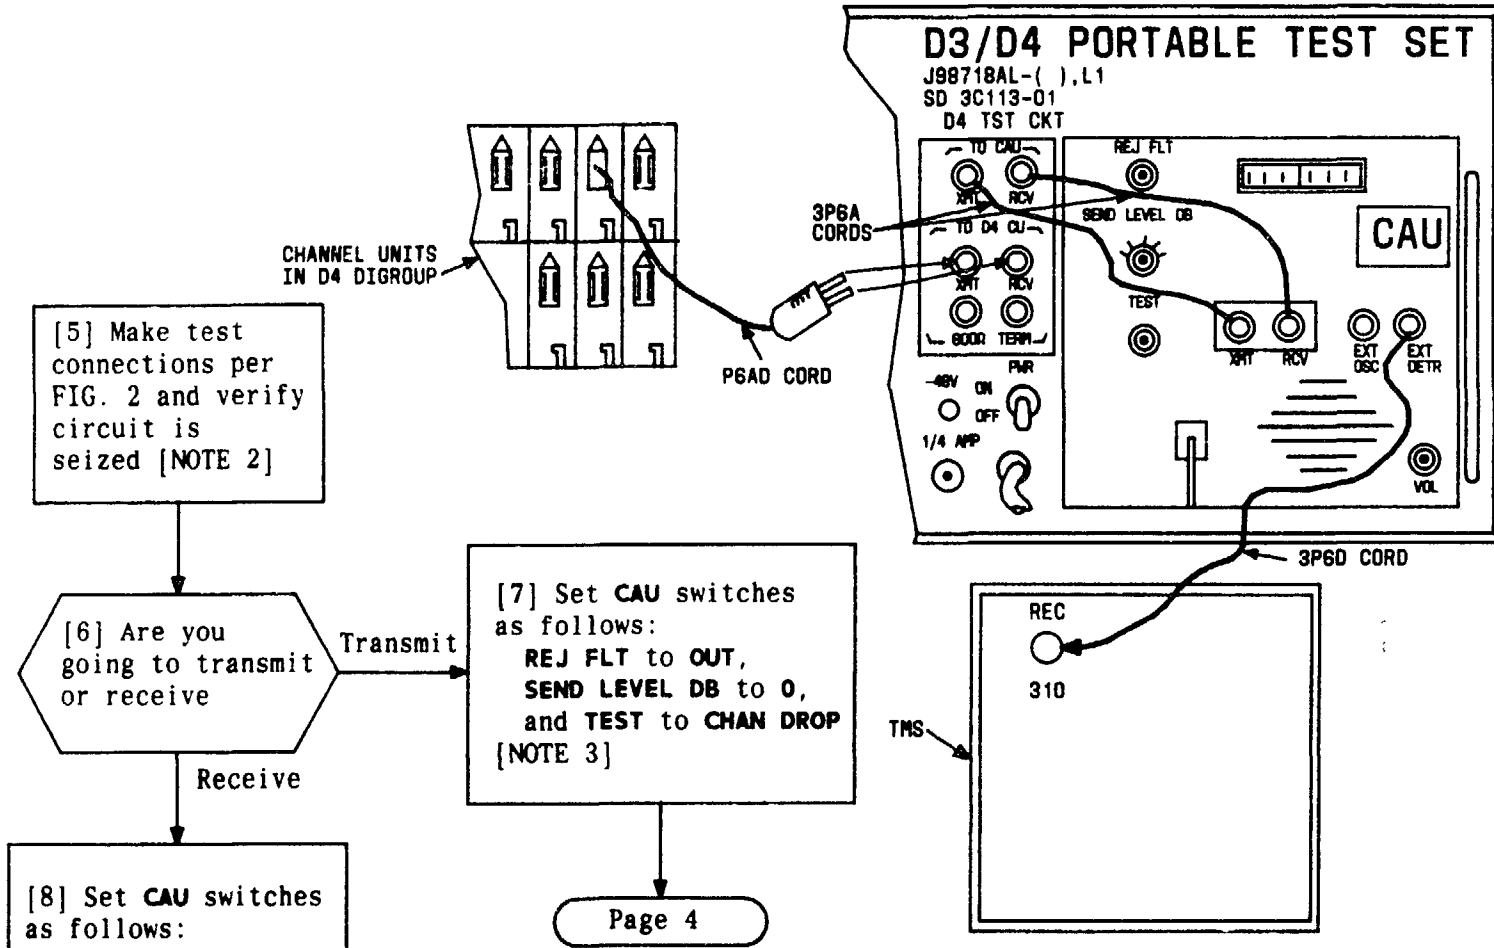

**FIG. 1**
- [1] See NOTE 1, FIG. 1, and circuit layout information. Arrange for loss test with tester at customer station equipment